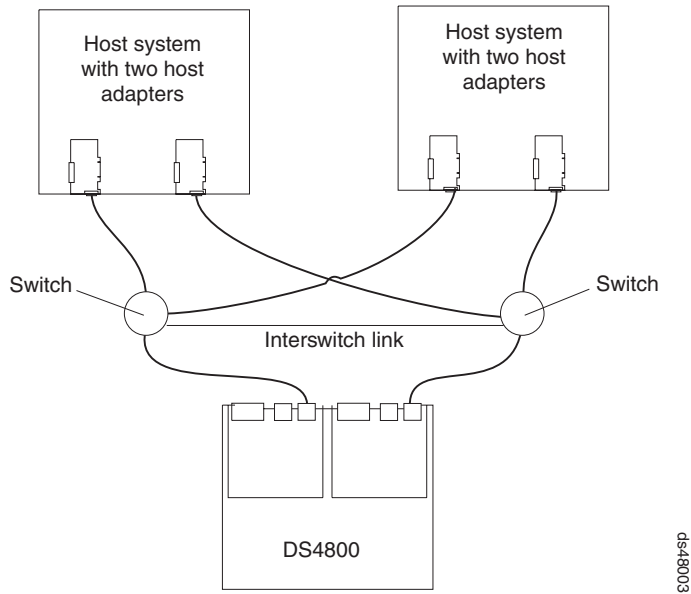

Figure 68. Example of a single SAN fabric configuration
- Single SAN fabric configuration, as shown in Figure 68 on page 98
In Figure 68 on page 98, gives an example of two host systems, with fibre channel switches connected by an interswitch link, forming a single SAN fabric configuration.